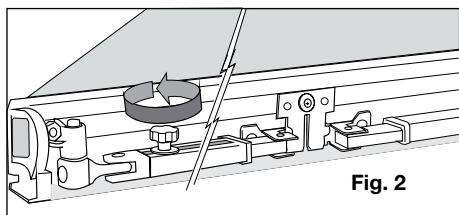
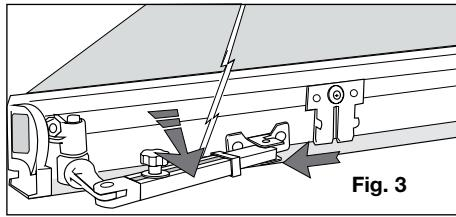

Fig. 2
Fig. 3
- Remove the connection between the footboard and the arms (with screwdriver and wrench S10). (Fig. 2)
- Loosen the square connection according to fig. 2 (actions 1, 2 and 3), push the footboard in (4) and tie it to the frame (fig. 3).